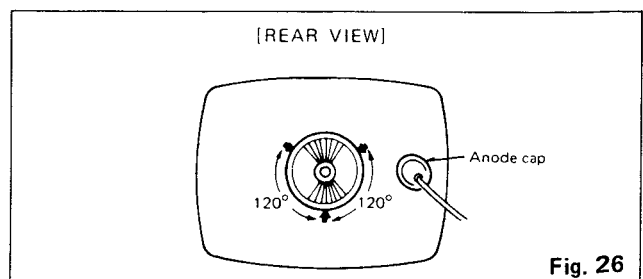

Fig. 26
8. Insert three wedges to the position as shown in Fig. 26 to obtain the best circumference convergence.